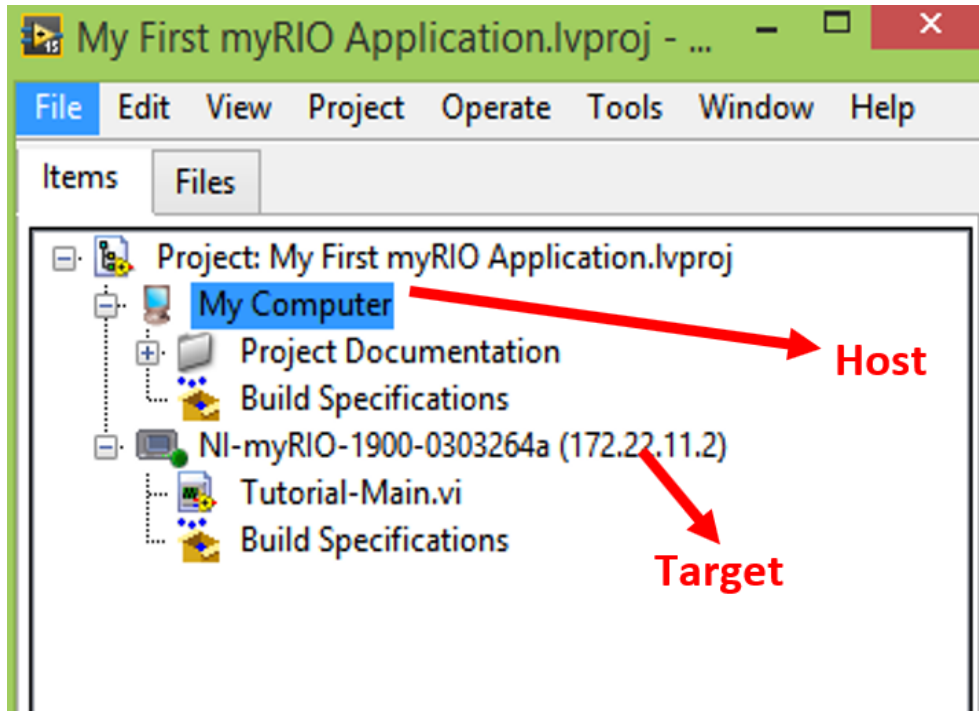

Figure 3.7: Project explorer window
In the project explorer window, shown in Figure 3.7, you can see the host device (your computer) and the target device, which is the myRIO connected. Note that the numbers 172.22.11.2 within the bracket is the IP address of the target device. A default main VI is automatically created under the target device.
Double-clicking on the Main.vi under the myRIO target in the Project Explorer window (Figure 3.7) will launch the VI in LabVIEW and bring you to the front panel and also the controls palette.
3. Create a shared variable in your project under the myRIO Target. Go to the Project Explorer (Figure 3.7). Right click My RIO target >> New >> Variable to create a shared variable.